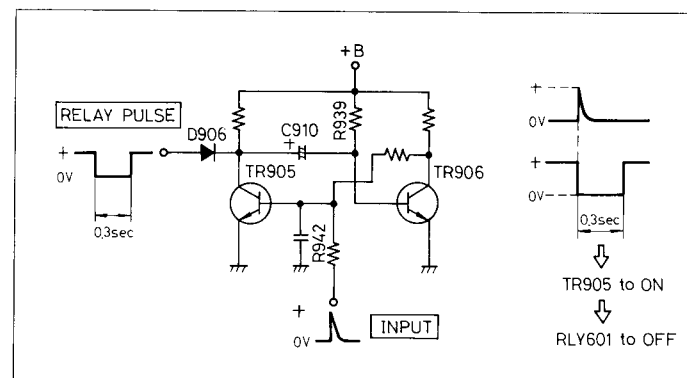

Fig. 5
In this instance, as explained in item 4, a positive pulse is generated from the trigger-pulse-generation circuitry. This pulse is applied to the mono-stable multivibrator shown in figure 5. TR905 of this circuitry is usually maintained in the "off" condition, and TR906 in the "on" condition. When a positive pulse is applied to the base of TR905, it becomes on, and the collector becomes ground potential.